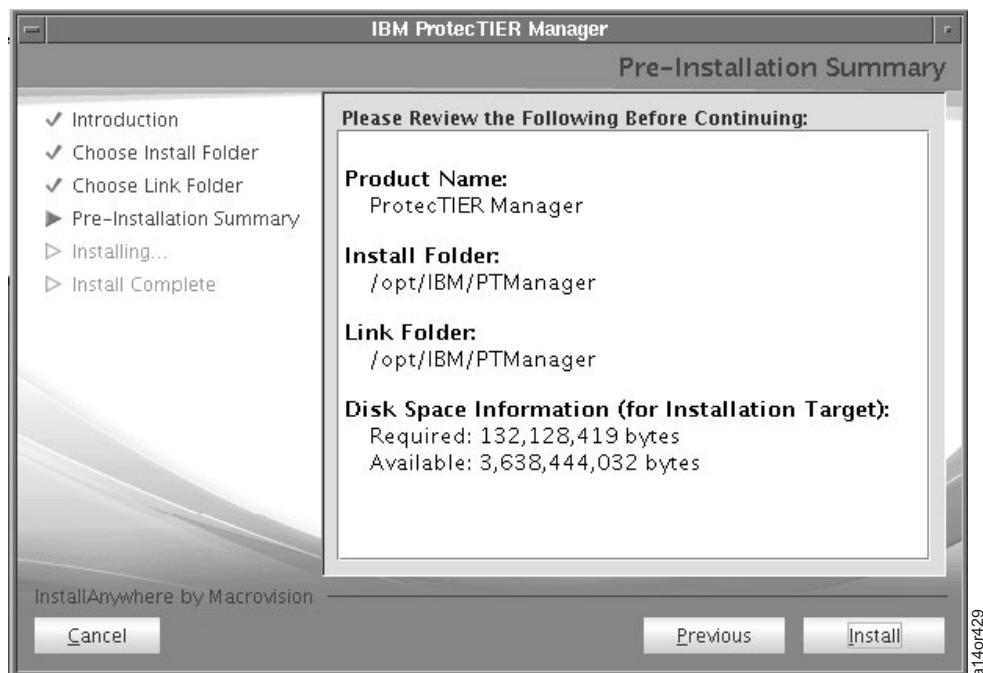

Figure 2-93. Pre-Installation Summary Screen
9. You will see the Figure 2-93. This screen shows you where the ProtecTIER GUI Manager software will be installed.